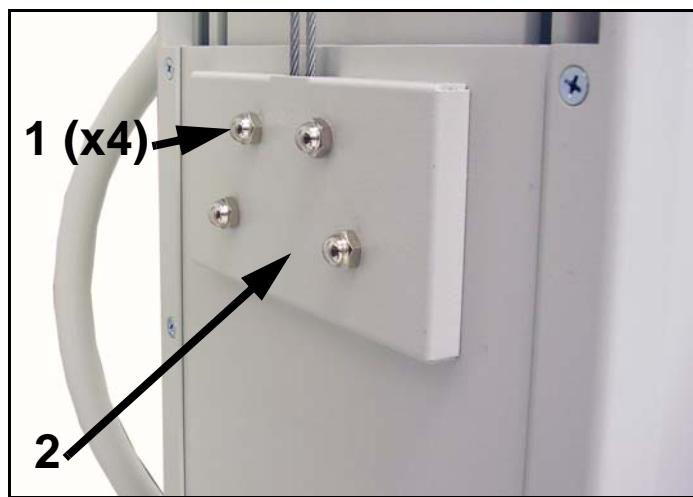

Figure 6-4. Back Cover
- 3 Unscrew four back cover nuts (1 in Figure 6-4) and remove back cover (2).